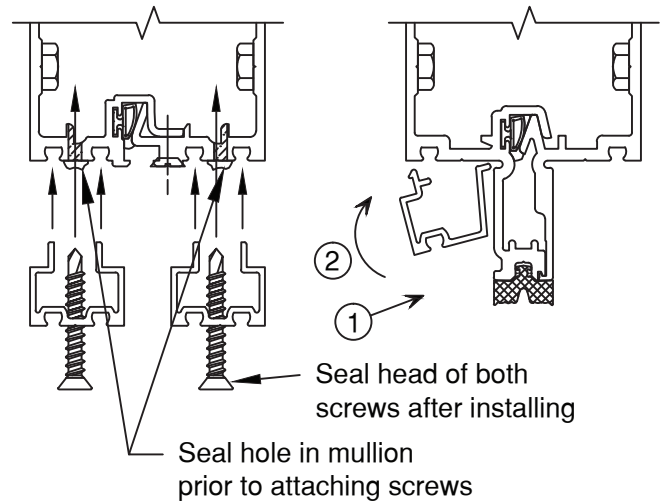

FIGURE 31
A.1 Install vertical adaptors first, leaving an equal overlap into each pocket. For captured verticals and all horizontals, insert the leg into the vertical reveal, then snap the hook side into the glazing reglet. **SEE FIGURE 31.** Refer to **VERTICAL SPLICING, page 14**, if vertical mullion is spliced within a spandrel lite. Transition adaptors must be installed after mullion splice is sealed.
A.2 For SSG mullions, install adaptor legs into the mullion glazing reglets. Secure to mullion with FS-119 #10 x 1 3/8" Phillips Flat Head screw 3" from the ends and 12" O.C. Cap seal screws. **SEE FIGURE 31.**